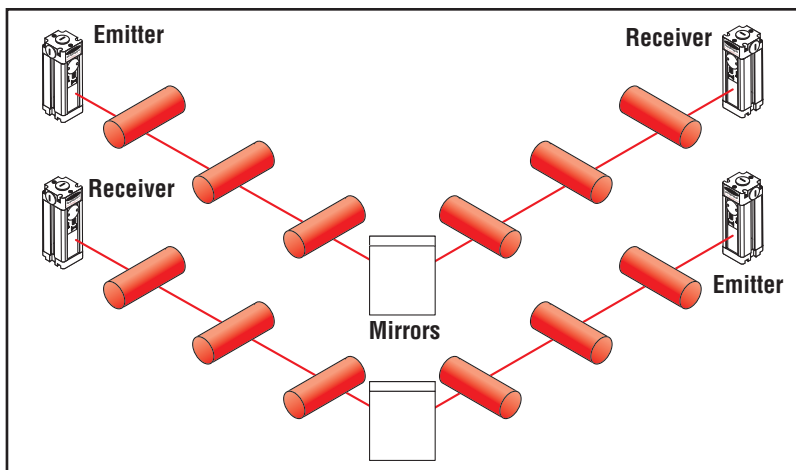

Figure 2. EZ-SCREEN Point trip test with corner mirrors
- If corner mirrors are used in the application, the beams must be tested at three points on *each leg of the beam path* (between emitter and mirror, and also between mirror and receiver, as shown in Figures 2 and 3).